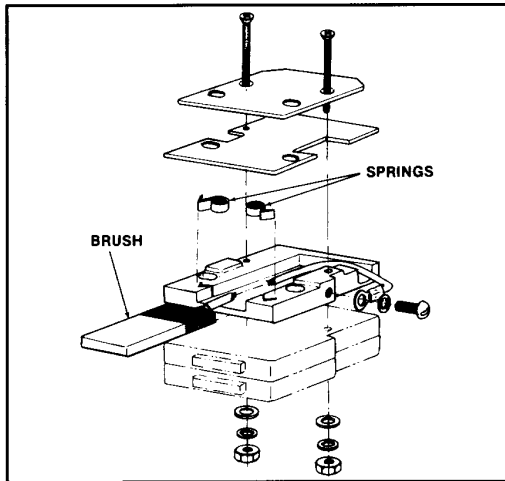

Figure 19 - Brush & Spring Replacement
D. Brush and Spring Replacement (Figure 19)